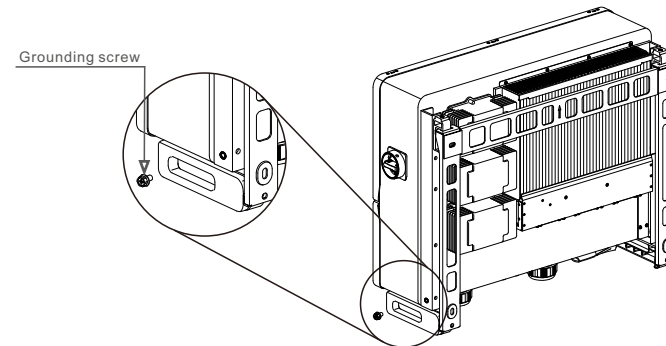

Figure 3.18 Fixed cable
- 6) Connect the grounding cable to the grounding point on the heat sink, and tighten the grounding screw, Torque is 10-20N.m(see figure 3.18).